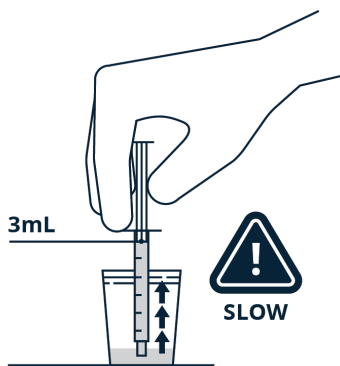

Figure 1. Draw 3mL of the sample.
4. Use a 5mL Luer-tip syringe to slowly draw a 3mL aliquot of the liquefied semen specimen. If there is insufficient volume, add sperm washing solution to give 3mL (Figure 1).